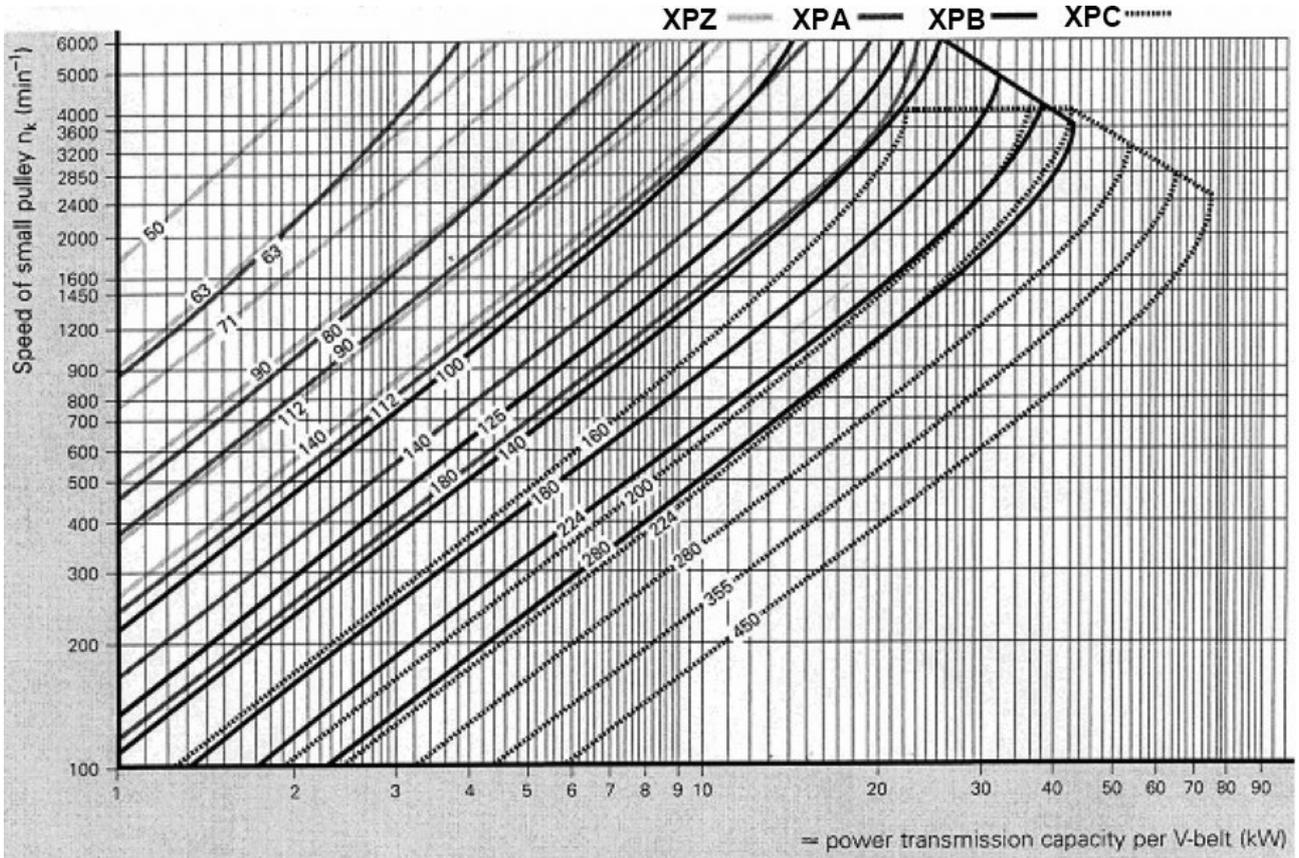
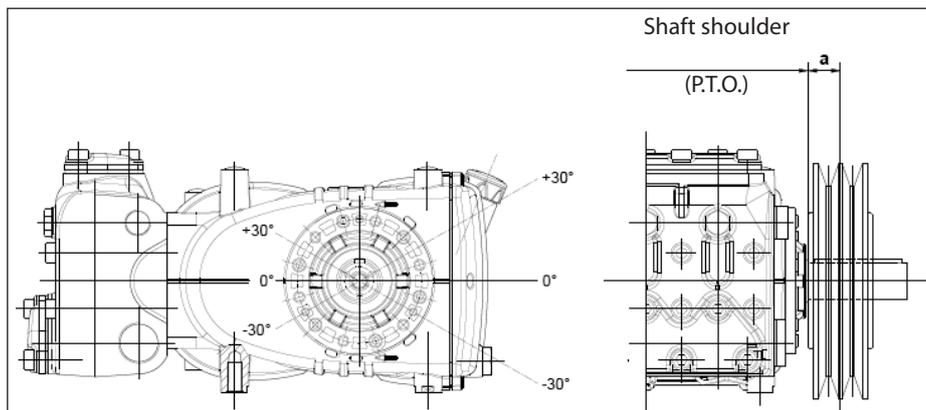

Fig. 7
Fig. 10
The pump can be controlled by a V-belt system. For these pump models, we recommend use of 3 XPB belts (16.5x13 serrated). Use an XPC profile only for long durations. Both the characteristics and transmissible power of each belt can be verified in the diagram in Fig. 7, in relation to the number of rpm normally declared by the manufacturer. Minimum duct pulley diameter (on pump shaft):  $\geq 160$  mm. The radial load on the shaft must not exceed 4500 N (value necessary for Layout definition). The transmission is considered adequate if the load is applied to a maximum distance **a = 50 mm** from the shaft shoulder (P.T.O) as shown in Fig. 10.
- b) Use high performance belts – for example **XPB** instead of **SPB** – as a lower quantity of belts for the same transmitted power may be necessary and a consequent shorter resulting distance compared to the shaft shoulder (P.T.O.) “a” of Fig. 10.
- e) Follow the direction of the belt pull as shown in Fig. 10 for other needs, contact our **Technical or Customer Service Department**.